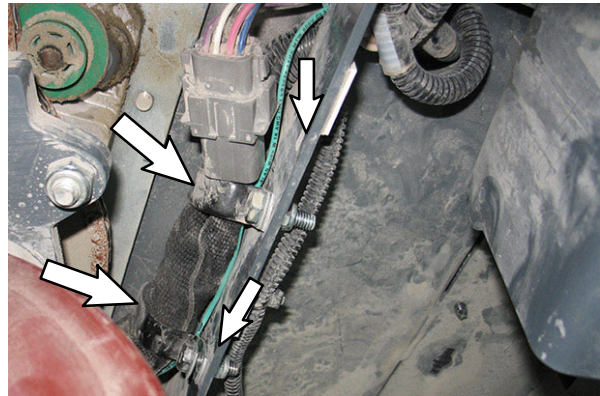

FIG. 10
10. Route the green wire (1) along the main wire harness and through the two cable clamps installed on the frame of the machine. (Fig. 10)